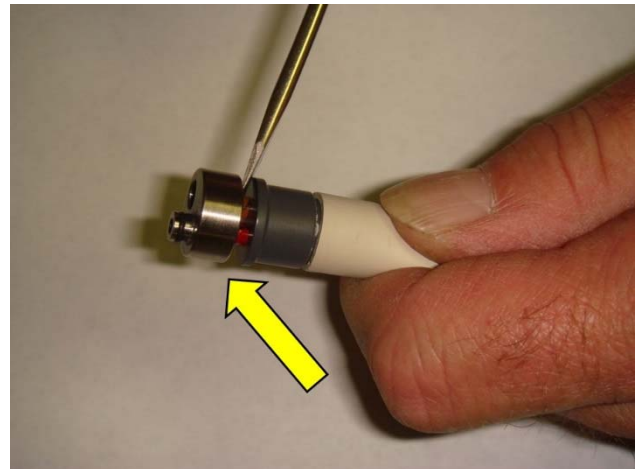

Fig. 3
5. Separate the gray tubing retainer from the connector to expose the tubing. Use a small flathead screwdriver if needed. (Fig. 3)